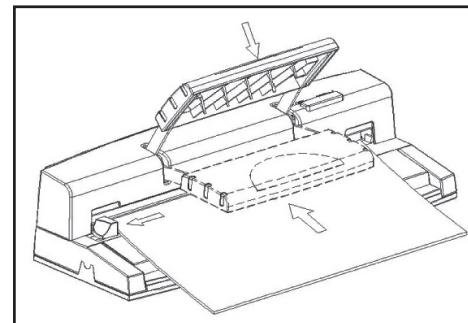

Figure 4
- Set Edge Guide to paper size you wish to bind (see figure 4)